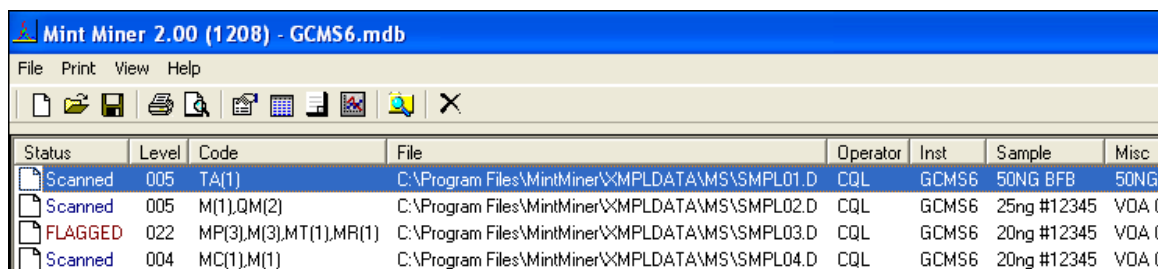

Figure 3.6: The Mint Miner main interface.
2. By clicking on the Scan Options icon  on the Main Interface Dialog (See figure 3.6 on page 15).